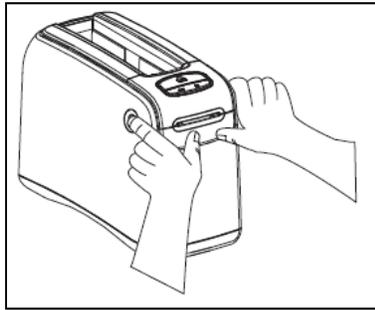

Figure 4
- 3d.)** Refer to Figure 4. Press both upper cover release buttons simultaneously; the upper cover will partially open.
- 4c.) Refer to Figure 4. Press both upper cover release buttons simultaneously; the upper cover will partially open.